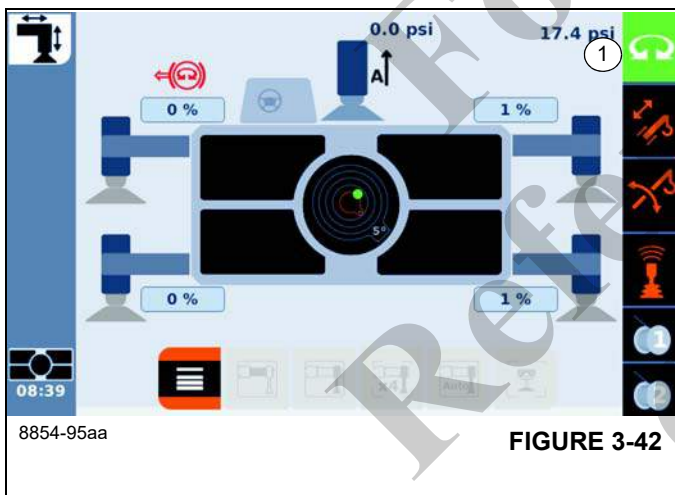

FIGURE 3-42
| Red:   | Swing gear switched OFF OR Park Brake NOT enabled (Figure 3-42) |
| Green: | Swing gear switched ON – outrigger movement disabled (Figure 3-42)     |
The highlighted green symbol (1), (Figure 3-42) is pointing to the Swing Status Indication.